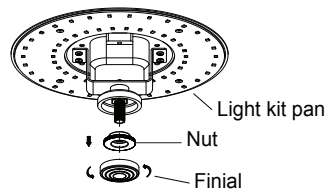

Fig. 18
Step 1. Remove the finial, and nut from the threaded nipple of the light kit fixture assembly. (Fig. 18)